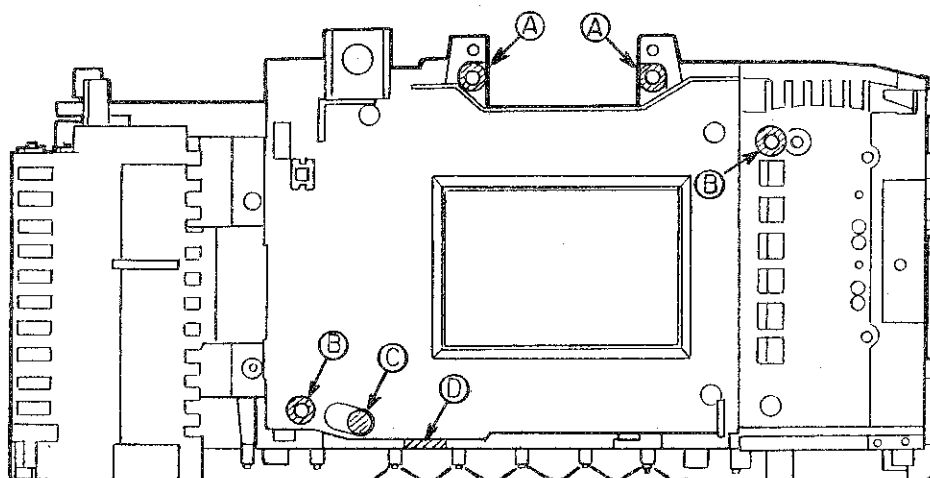

Fig.55
- When the new type Mirror Box Ass'y is to be installed in the Type A Body, remove the washers at the points ③ only, leaving the washers at the points ① and ② and the tape at the point ④ as they are. (See Fig.55)